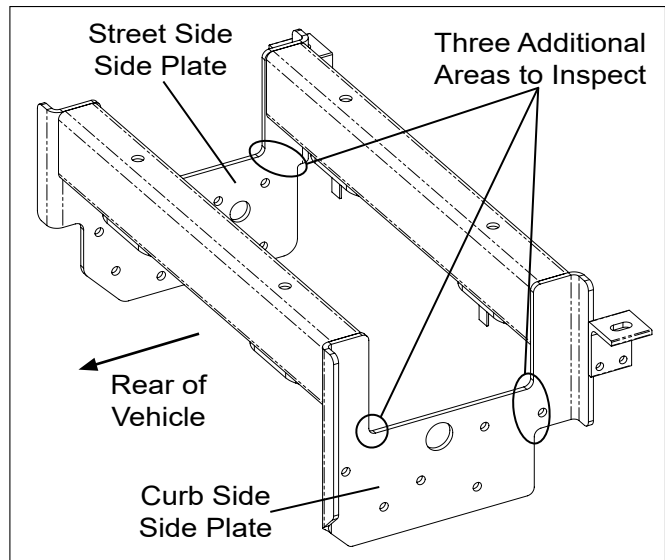

Figure 4 – Mounting Frame Additional Inspection
2. Use a wire brush to remove any paint and rust from the other three corners of the mounting frame (refer to Figure 4).